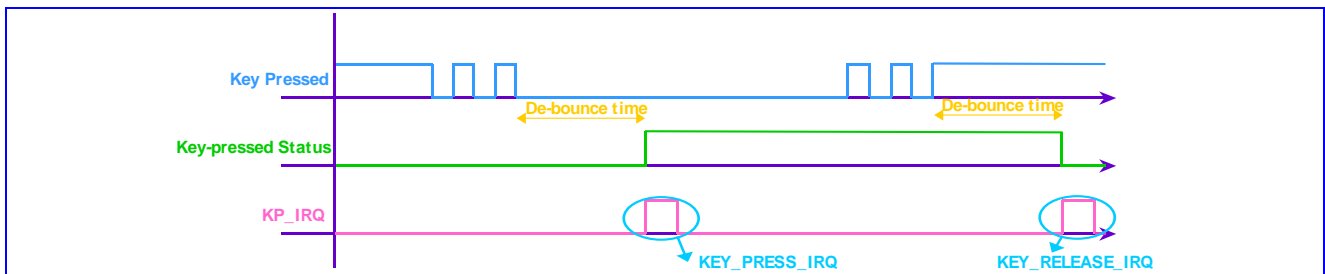
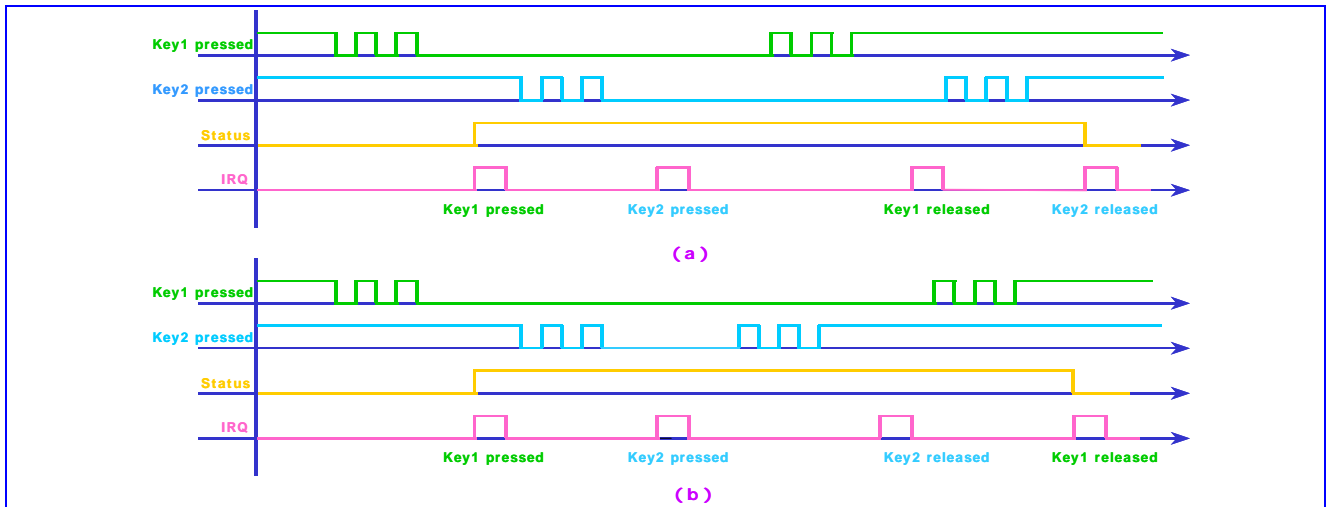

Fig. 8. One key pressed with de-bounce mechanism denoted
Fig. 9. (a) Two keys pressed, case 1 (b) Two keys pressed, case 2
This keypad can detect one or two key-pressed simultaneously with any combination. **Fig. 8** shows one key pressed condition. **Fig. 9 (a)** and **Fig. 9 (b)** illustrate two keys pressed cases. Since the key press detection depends on the HIGH or LOW level of the external keypad interface, if keys are pressed at the same time and there exists a key that is on the same column and the same row with the other keys, the pressed key cannot be correctly decoded. For example, if there are three key presses: key1 = (x1, y1), key2 = (x2, y2), and key3 = (x1, y2), then both key3 and key4 = (x2, y1) are detected, and therefore they cannot be distinguished correctly. Hence, the keypad can detect only one or two keys pressed simultaneously at any combination. More than two keys pressed simultaneously in a specific pattern retrieve the wrong information.